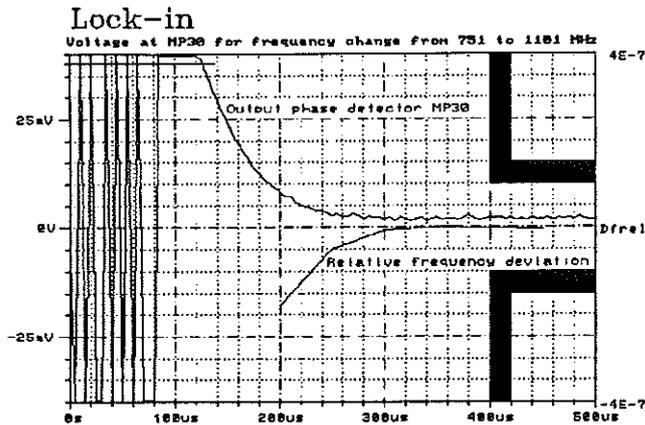

Fig.2
- ▶ 300 to 400 us after the module strobe the voltage change at the output of the phase detector must not exceed 10 mV. A voltage curve as shown in Fig. 2 is obtained.